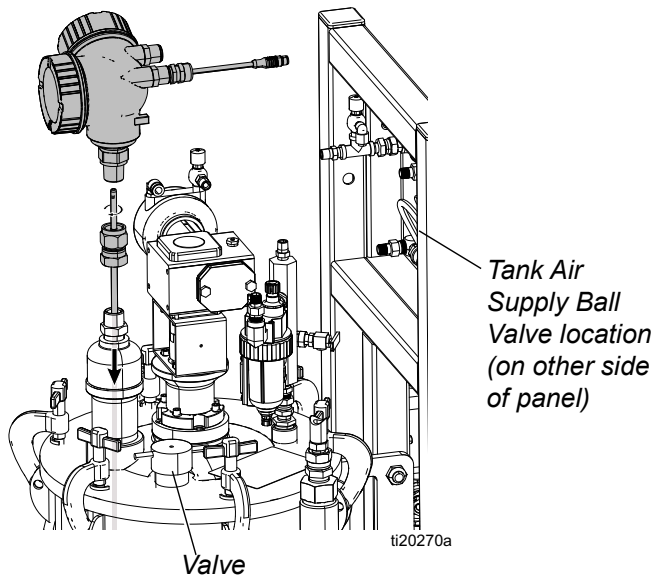

FIG. 9: Level Sensor Installation
1. With the tank empty, close the tank air supply ball valve then open the valve on the tank lid to de-pressurize the tank. See FIG. 9.